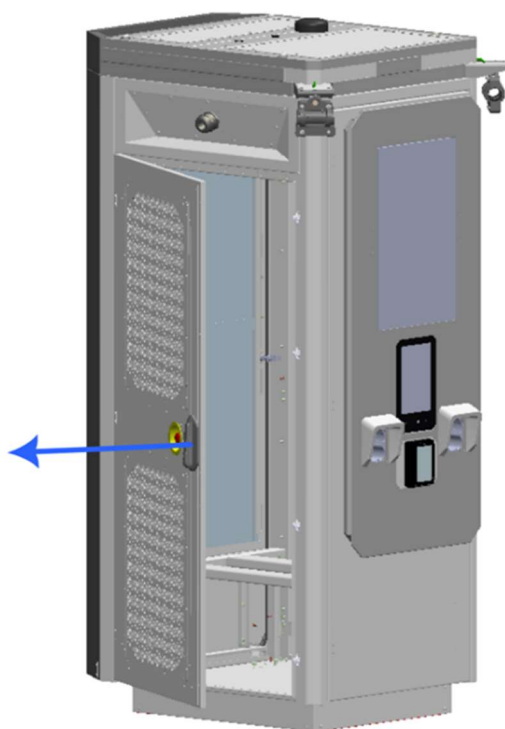

Figure 15 Opening the side doors
- open the side door (*Figure 15*),